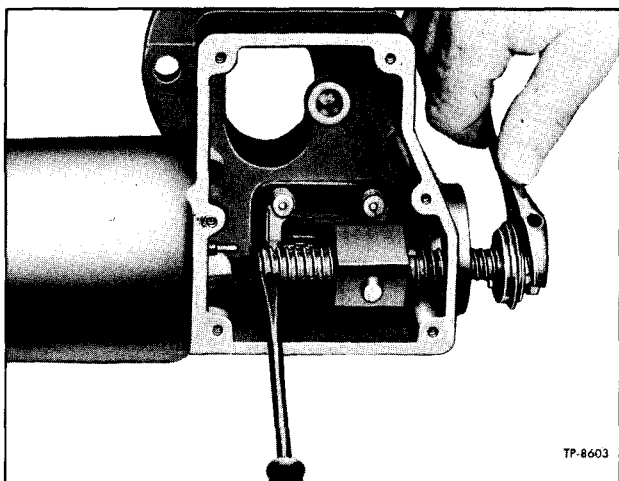

Figure 24—Removing Drive Screw Bearing
6. Push down on drive screw assembly (20) until bearing assembly (12) is free of housing.
7. Insert screwdriver in drive slot of screw (fig. 24), then remove bearing lock nut (13) and bearing with snap ring (12). Drive screw assembly (20) can then be lifted out of housing.
NOTE: Rockwell shift unit is partially disassembled during removal from differential housing as described earlier in this section under "Two-Speed Shift Unit Replacement." With the unit on the bench, balance of disassembly is the same as Eaton shift unit disassembly as illustrated in figures 24, 25, 26, and 27. Reference will be made to those illustrations during the following disassembly operations, and also in the assembly operations.
3. Insert screwdriver in drive slot of screw (fig. 24); then remove bearing lock nut (13) and bearing with snap ring (12). Drive screw assembly (20) can then be lifted out of housing.